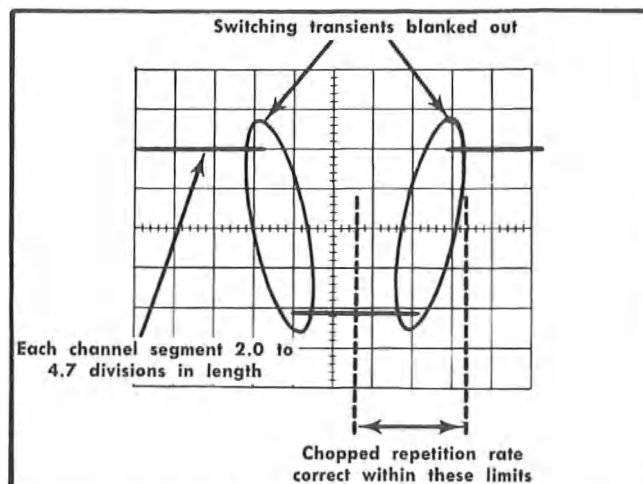

Fig. 5-29. Typical CRT display when checking chopped repetition rate and blanking.
c. CHECK—CRT display for duration of each cycle between 5.6 and 8.4 divisions (150 kilohertz $\pm 20\%$; see Fig. 5-29).
e. CHECK—CRT display for complete blanking of switching transients between chopped segments (see Fig. 5-29).